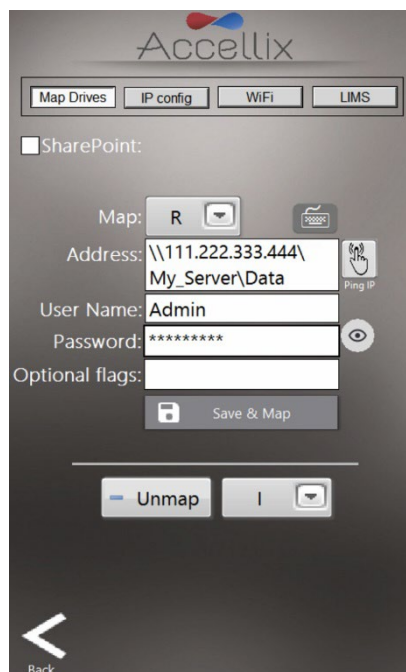

Figure 26: Network screen: Map Drives tab
The **Network function** screen (Figure 26), has four tabs:
1. The Map Drives tab (Figure 26) allows the user to map a drive letter to a network drive.